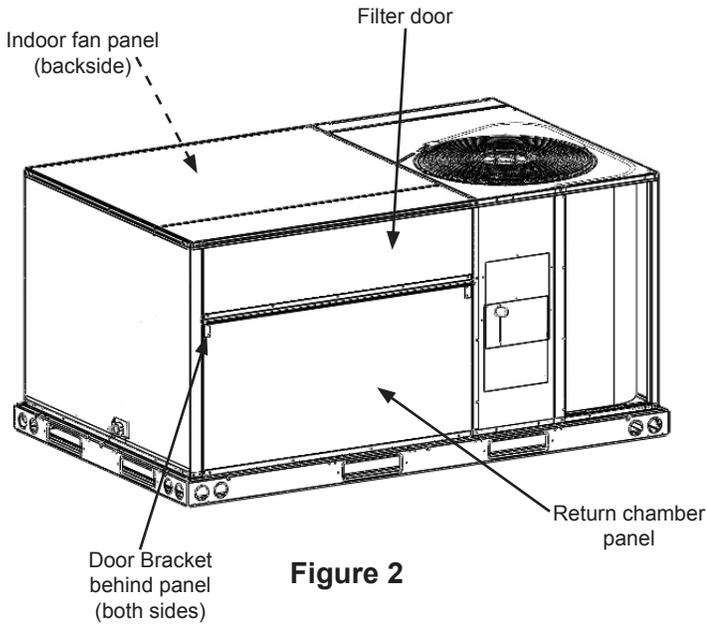
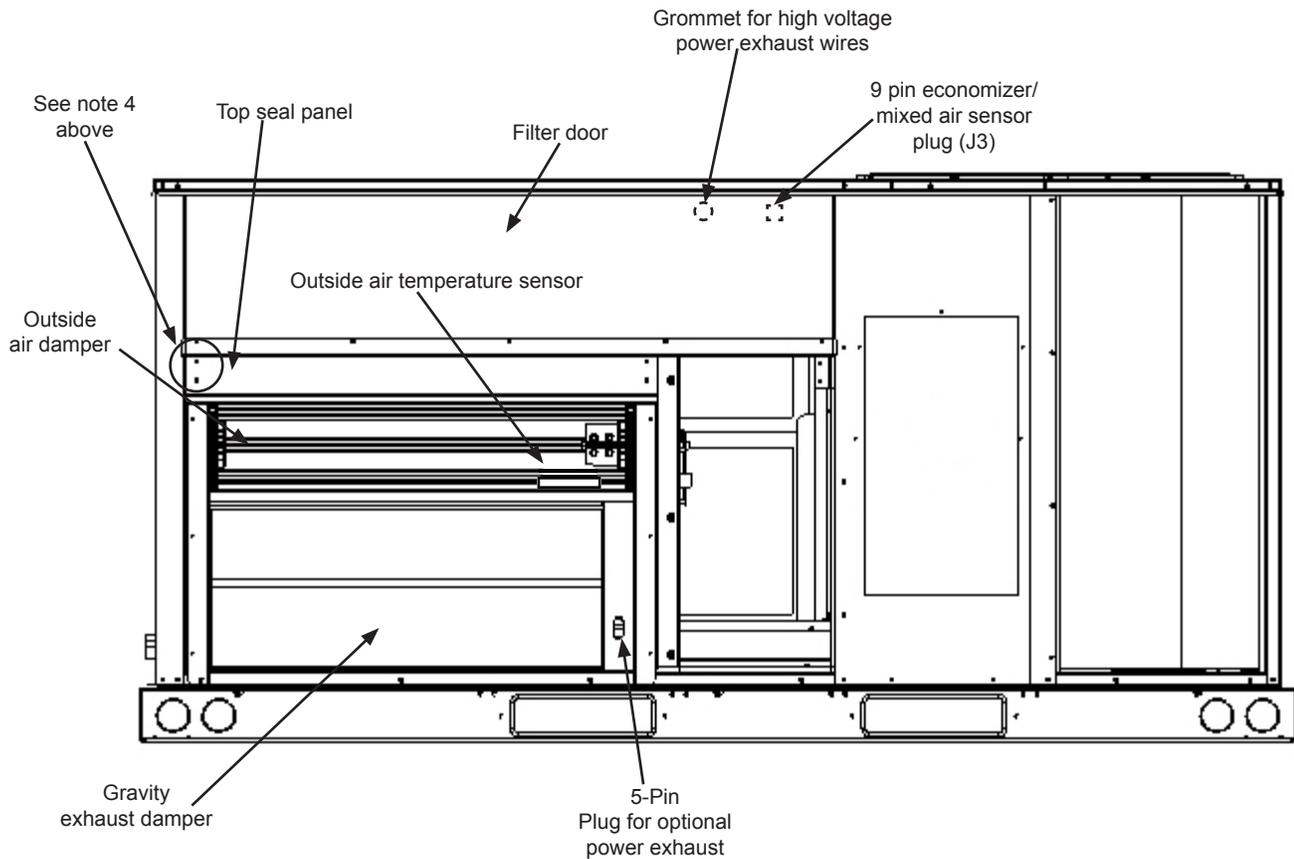

Figure 2
Figure 5
5. Partially back-out the 2 screws on the left side of the economizer top seal. Insert these 2 screws into the door bracket (see figures 2 and 5) holes and tighten. Place screws in bottom flange as shown in figure 5.
1. Locate 9-pin J3 economizer jack harness seated in upper right panel inside filter compartment. Disconnect P3 jumper plug from J3 and retain jumper plug for future troubleshooting. Connect 9-pin P4 economizer plug from economizer control module harness to J3 economizer jack. Secure P4 harness with push in wire tie from parts bag and insert it into the 1/4" hole on top of filter rack. Refer to figure 5.